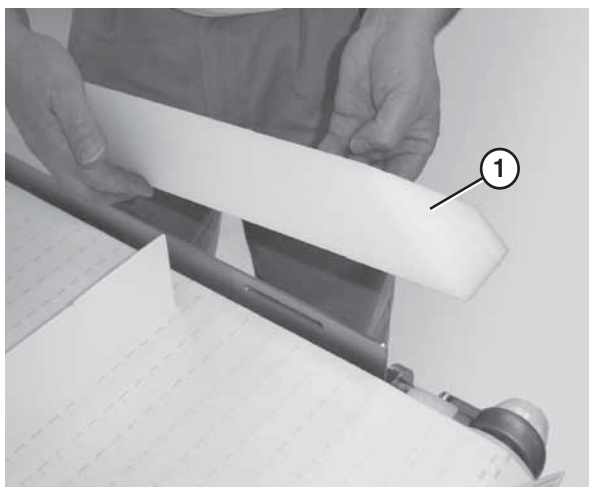

Figure 59
2. Remove the guide (Figure 59, item 1).